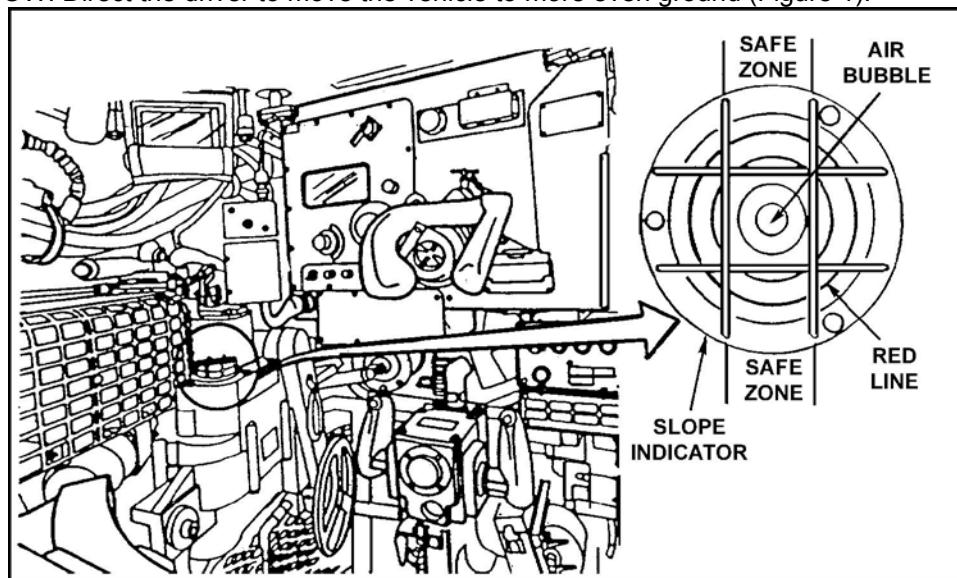

Figure 1. Slope indicator.
- a. The Bradley commander and gunner check the slope indicators to make sure that the vehicle is within the 10-degree slope warning. If the air bubble touches the outer (red) ring, do not fire the TOW. Direct the driver to move the vehicle to more even ground (Figure 1).